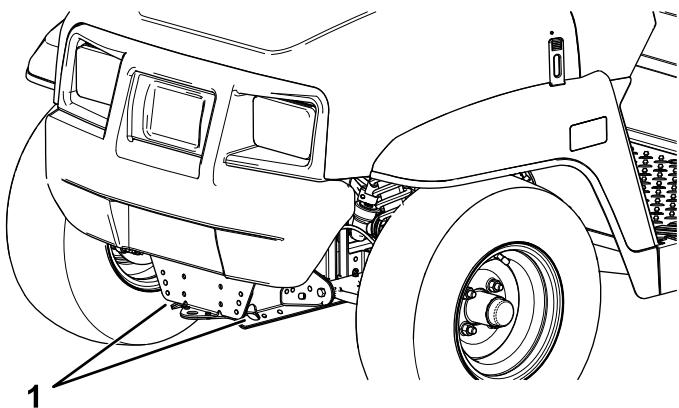
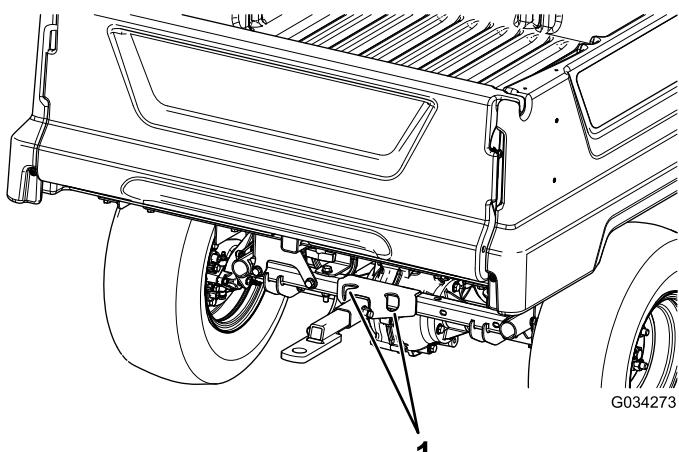

Figure 18
Figure 19
Refer to Figure 18 and Figure 19 for the tie-down locations on the machine.
2. Affix a tow line to the tongue at the front of the machine frame (Figure 18).